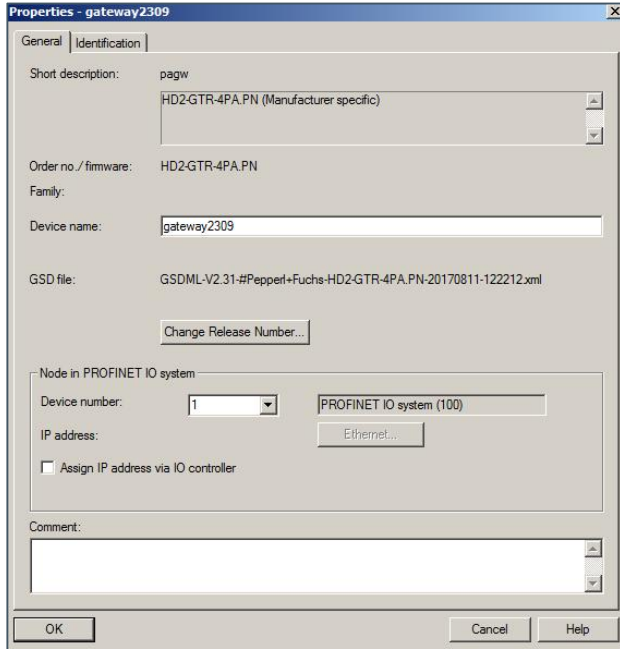

Figure 66: Uncheck the default IP address assignment via IO Controller
- 1) During the creation of gateway name, the default option with **Assign IP address via IO controller** is removed by unchecking the box (see: Figure 66: Uncheck the default IP address assignment via IO Controller).